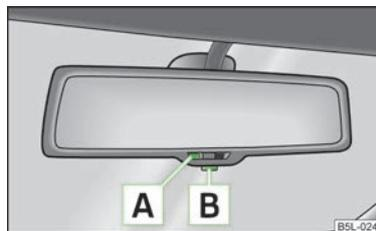

Fig. 39
- > Press the button  » Fig. 39, the indicator light  lights up.